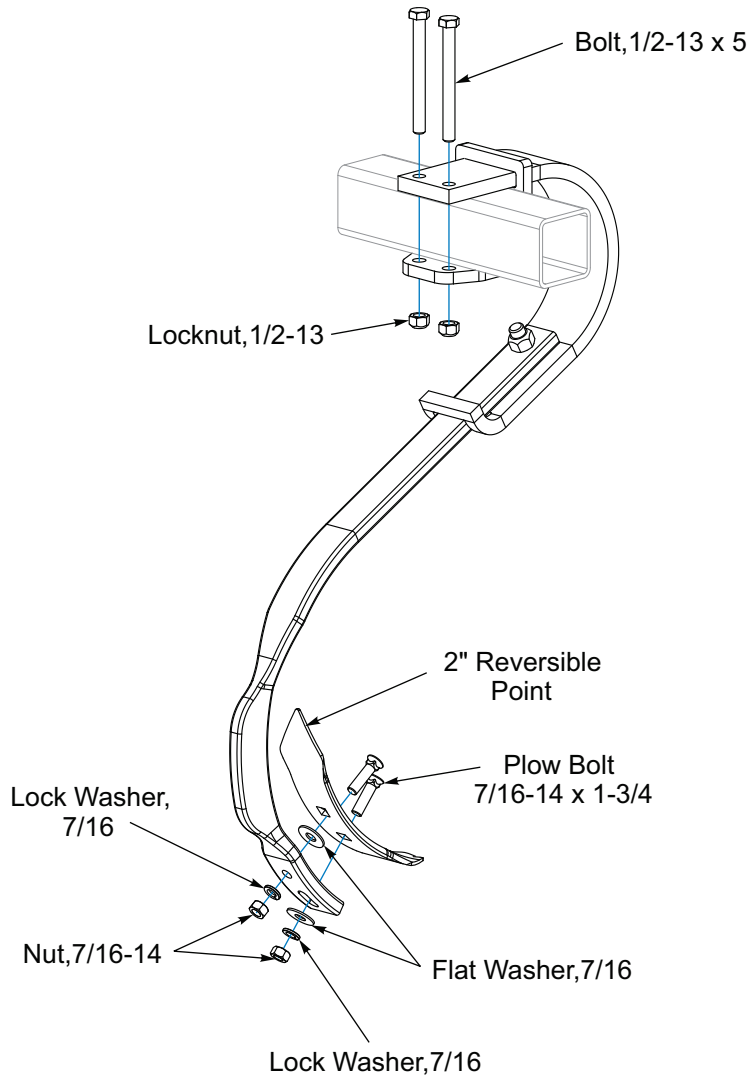

Figure 2-40: Shank Installation
2. Assemble Points to Shanks as shown in **Figure 2-40**.